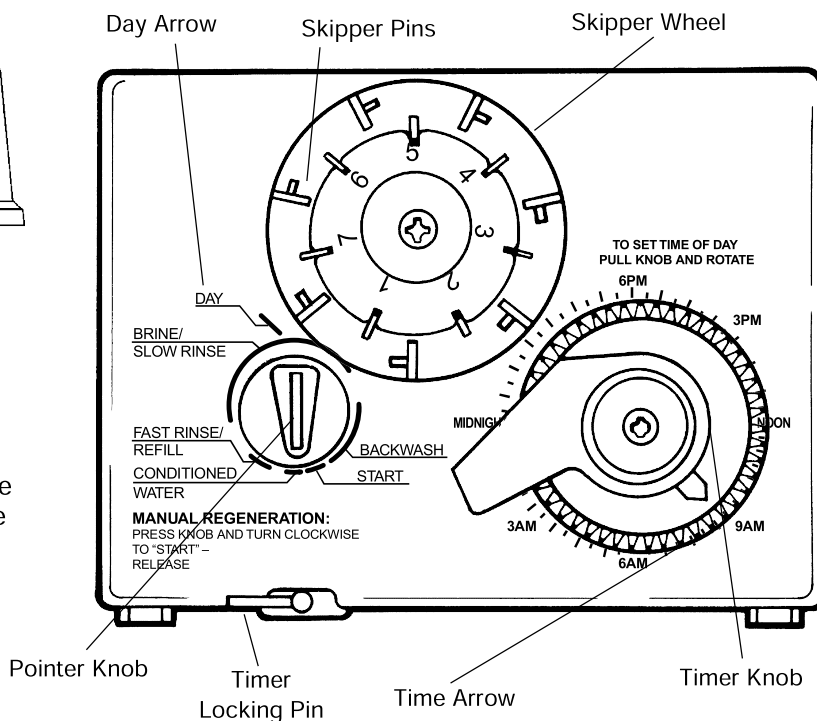

Figure 8
- Set days of regeneration on skipper wheel (Figure 8).
- Rotate in either direction until the timer arrow points to the actual time of day (Figure 8).
Note: The Timer Locking Pin should always be horizontal (Figure 8) during operation.